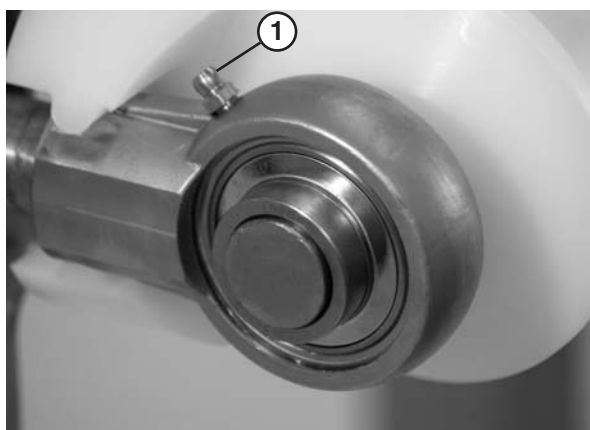

Figure 38
1. Add grease to the bearing using the zerk fitting (**Figure 38, item 1**) on the exterior of the bearing shaft assembly.